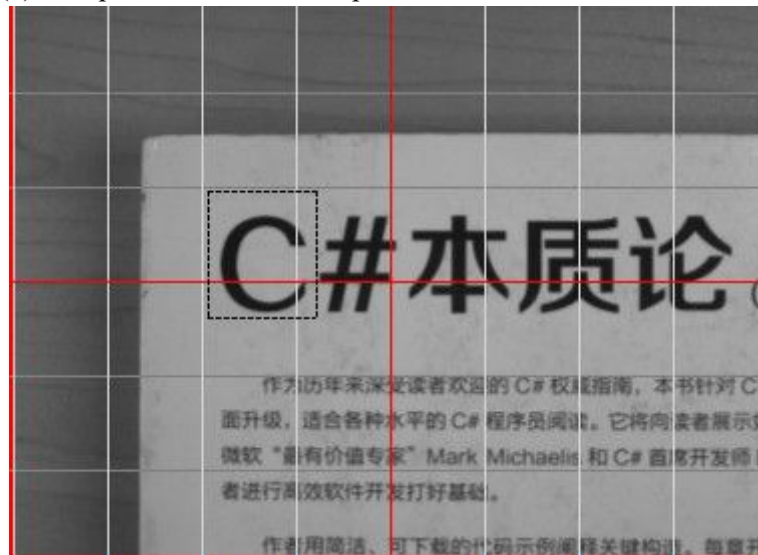
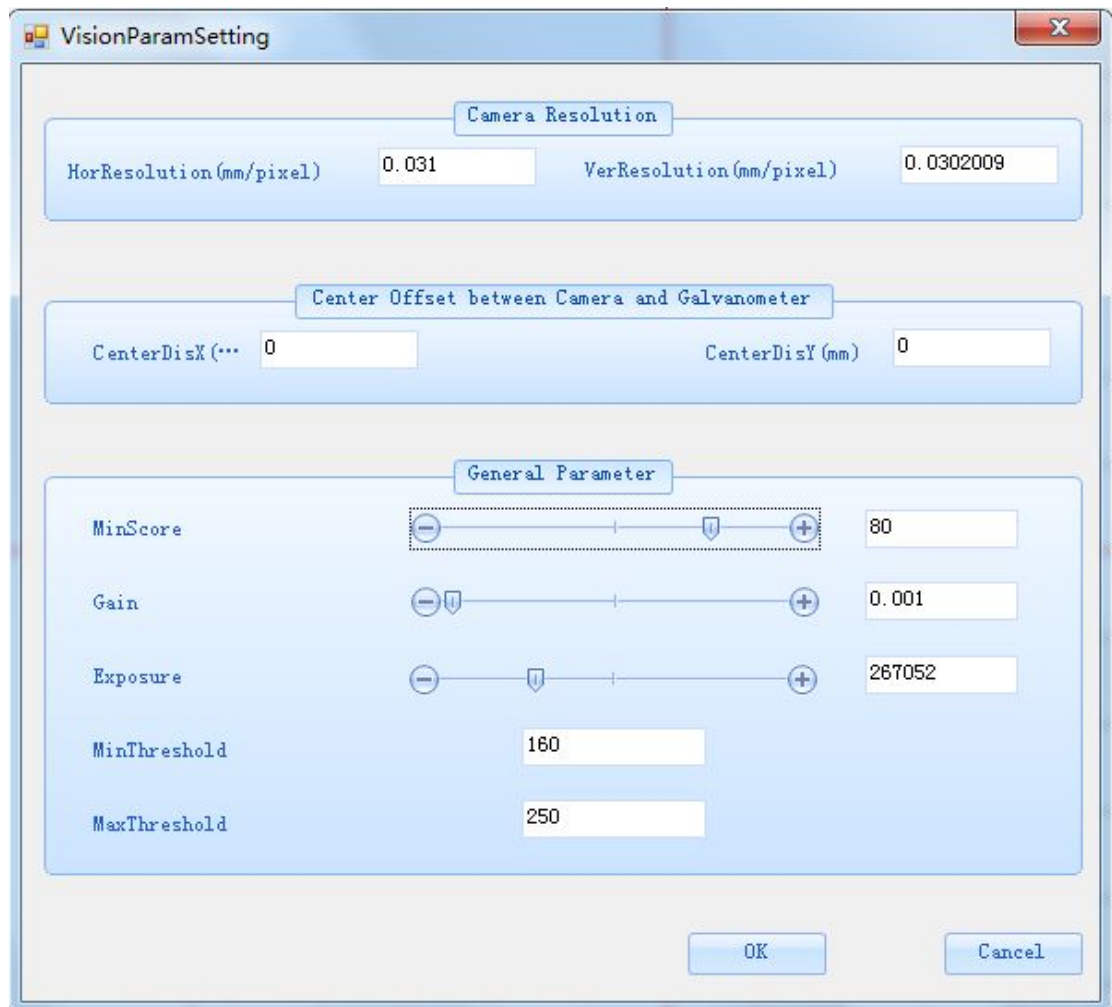

Figure 1.6 Select Template
Figure 1.7 Vision parameter settings
- After the camera and the galvanometer are connected, you can start some visual operations. First click the last button  in the left toolbar of the main interface, the template can be selected, as shown in Figure 1.6, select "C" as the template. After the template selection is completed, the visual parameter setting interface will pop up, as shown in Figure 1.7. At this time, the outline of the template will be displayed in the work area according to the parameter settings. If the parameters are appropriate, the outline of the template will be displayed, as shown in Figure 1.8 (a), otherwise a prompt message will appear, as shown in Figure 1.8(b). Template selection is complete.